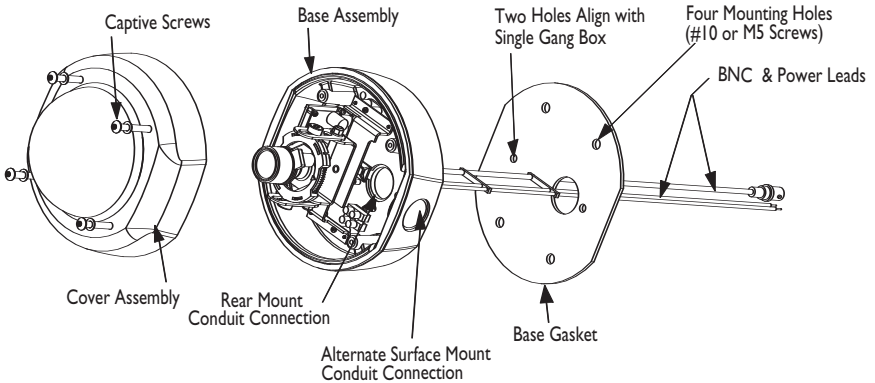

Figure 1 MLA Series Assembly
1. Using the special Allen wrench provided, remove the 4 tamper resistant screws located on the cover. The screws are captive and will remain with the cover. Refer to **Figure 1**.
Refer to *Figure 1*.